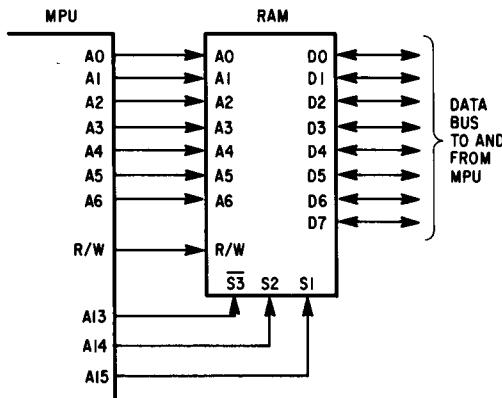

Fig. 5.5 MPU connections with RAM
The relationship between the MPU and the RAM is illustrated in Fig. 5.5. The R/W line shown is a signal line from the MPU to inform external devices that the MPU wants (1) to read data, if this line is high, or (2) send (write) data, if it is low.
To expand on the word selection process of a RAM, let's assume that the chip selects and word selects are tied to the MPU address bus as shown in Fig. 5.5. If A14 and A15 are put in a high state and A13 in a low state while A0–A6 are in a low state, the contents of memory location 000 0000 will be gated to the data bus if the MPU requests the contents of that location (the R/W line will be high). If the MPU desires to read the contents of location